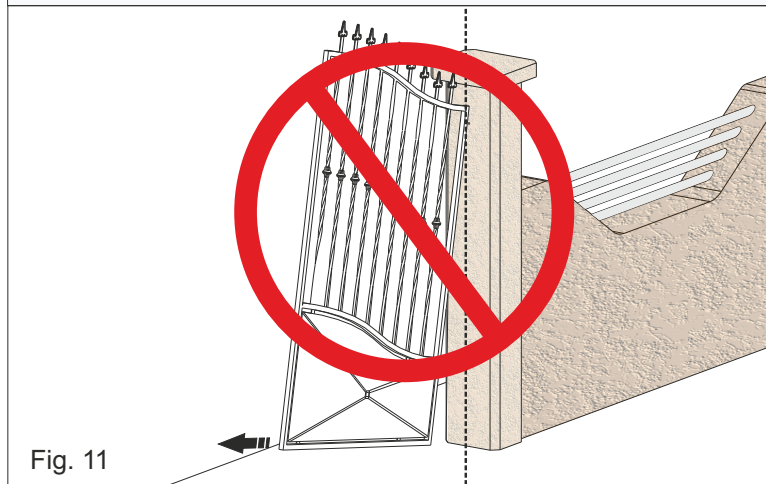
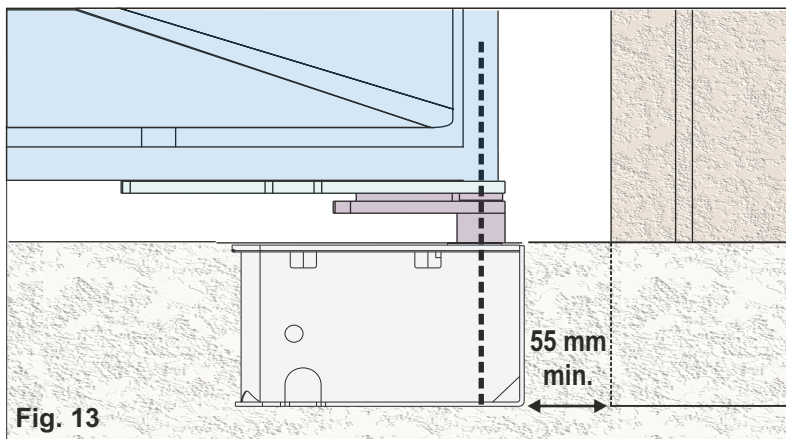

Fig. 11
Fig. 13
**⚠ NE PLACEZ PAS LE VANTAIL EN DEHORS DES AXES (FIG. 11 - 12); FAIRE COÏNCIDER LA TIGE AVEC L'AXE DE ROTATION DE LA CHARNIERE DU VANTAIL; LA DISTANCE MINIMALE DE LA COLONNE DOIT ÊTRE DE 55 mm (FIG.13) GRAISSER LE TOUT A L'AIDE DU GRAISSEUR SPECIAL JUSQU'A CE QUE LA GRAISSE SORTE DES DEUX CÔTES**